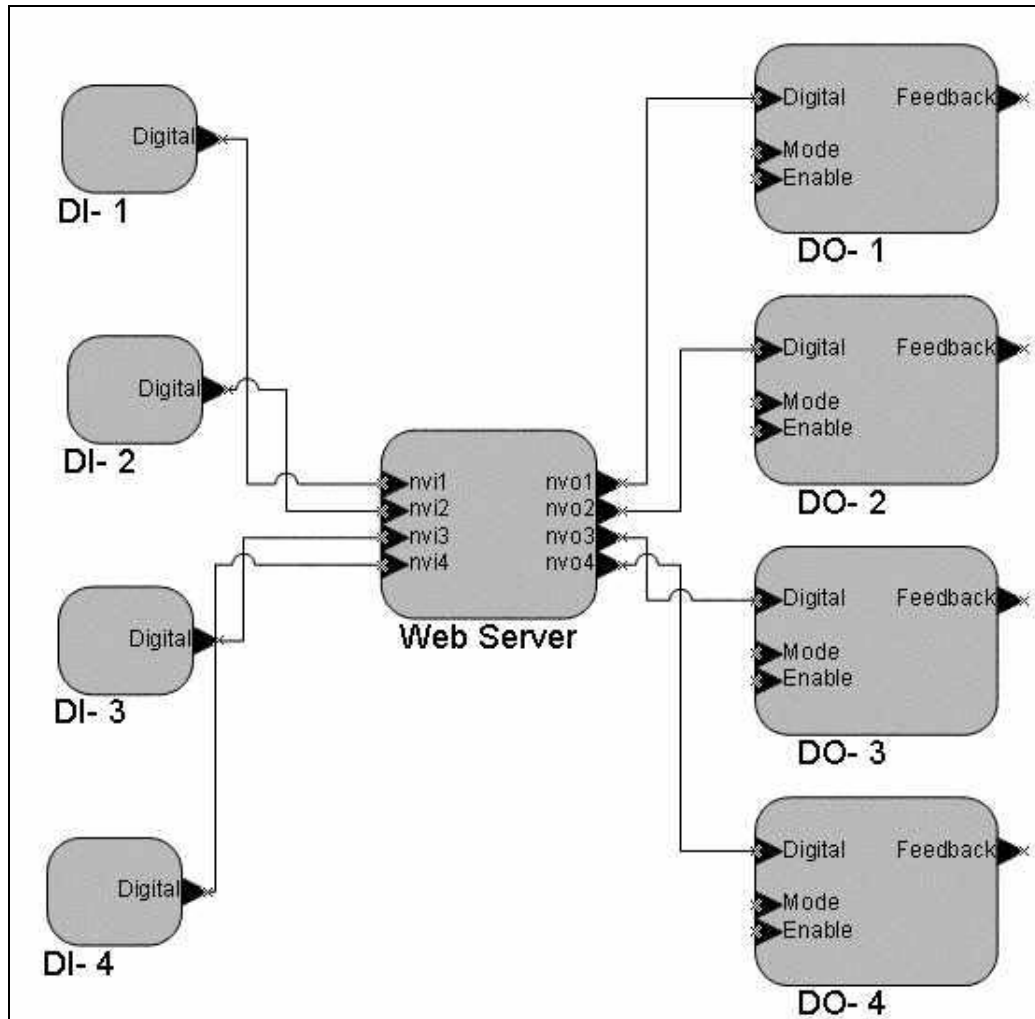

Figure E.5 Digital Input / Digital Output Functional Blocks
11. Connect the **Digital Input** functional blocks to the **Web Server** inputs, and the **Digital Output** functional blocks to the **Web Server** outputs, as shown in Figure E.5.